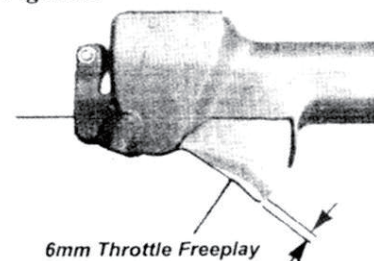

Figure 2
2. Adjust the throttle cable adjuster nuts until you achieve a free play on the throttle trigger of about 6mm. See Figure 2.